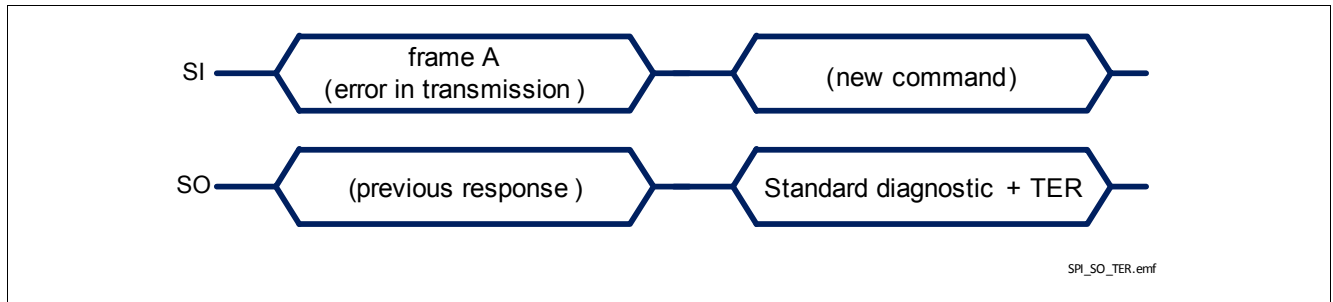

Figure 29 TLE75008-EMD response after a error in transmission
- in case an error in transmission happened during the previous frame (for instance, the clock pulses were not multiple of 8 with a minimum of 16 bits), shown in Figure 29